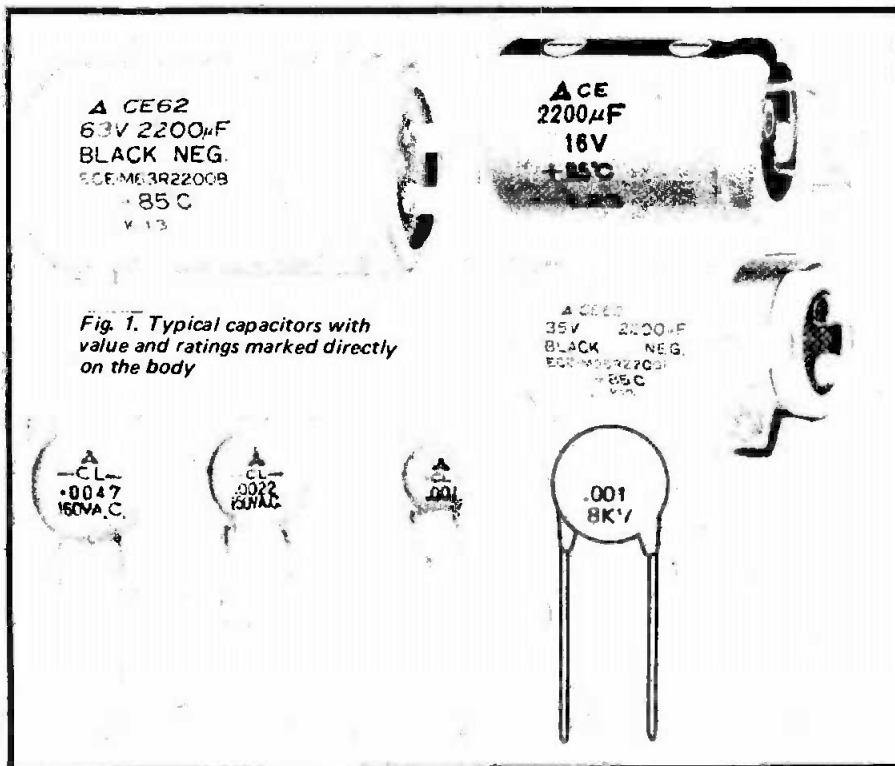

Fig. 1. Typical capacitors with value and ratings marked directly on the body
*Fig.1. The aspheric lens (top) gives an undistorted view of at least 20 squares, while the spherical glass lens (below), of the same diameter and power, only shows four reasonably undistorted squares.*
shown in Fig.1. Both magnifiers have the same size and magnification, but while the aspheric moulded plastics lens in the top unit has a distortion-free field of view of 20 squares, the spherical glass lens of the lower unit has an effective field of view of only four squares. Yet the glass lens is heavier and more expensive.
- (a) The value, tolerance, working voltage and any other characteristic may be stamped or printed on the body of the component. This is usually used on physically large components such as paper capacitors, electrolytics etc. However, it is being increasingly used on smaller capacitors, particularly plastic film types. Figure 1 shows representative markings.